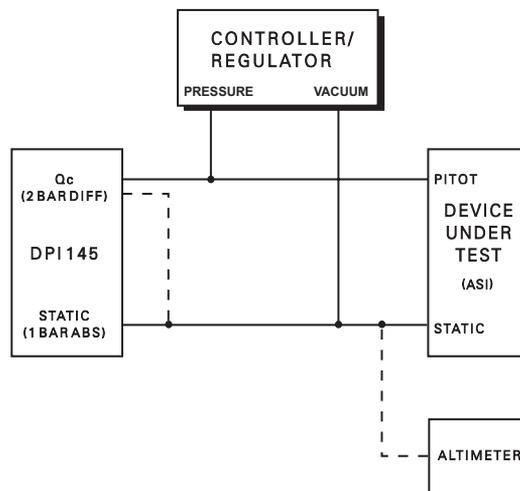

Figure 4.3 - Typical Test Set-up
#### 4.13.1 Form of Test (Fig. 4.3)
- Connect device under test and the DPI 145 instrument to the pressure source controller (see Figure 4.3.)
- Connect the device under test and the DPI 145 instrument to the pressure source controller (see Figure 4.3.).